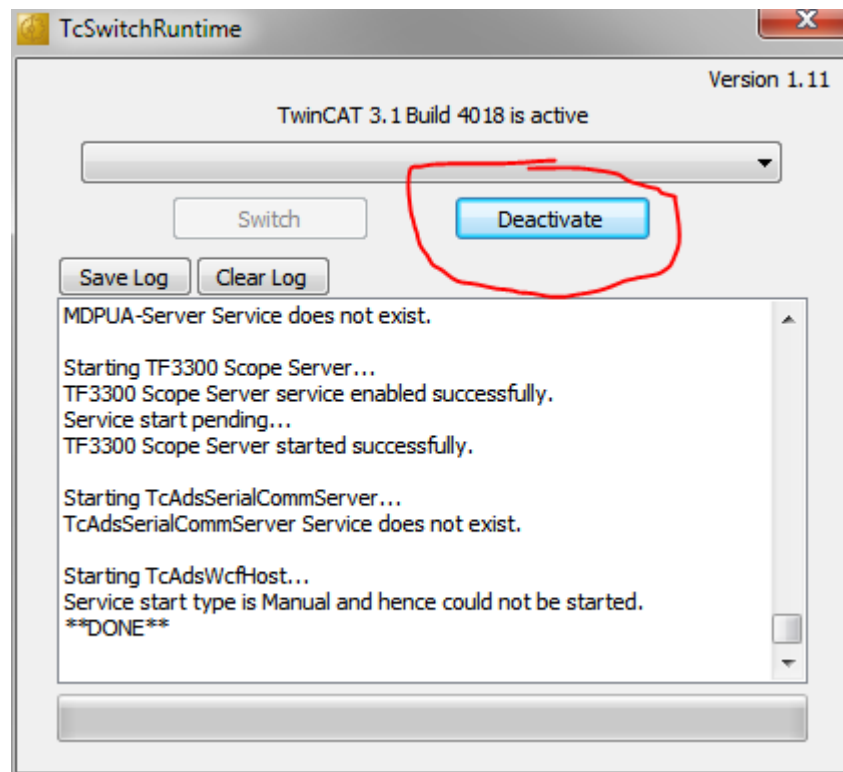

Figure 16. TwinCAT Runtime Dialog Box
2. Verify that the TCSwitch Runtime is active. The “Deactivate” button should be showing as illustrated in Figure 16. If this button reads “Activate”, click that button to start the TCSwitchRuntime.